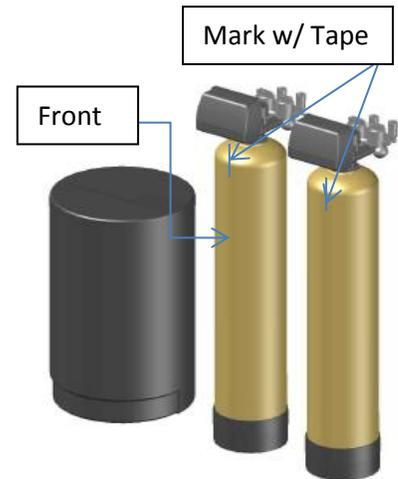

Figure 7: Correctly Set Up DCS6 Twin System
- d. Mark the “front” of each resin tank (shown in Figure 7) with either a marker or tape. The front of the resin tank is determined by the location of the face of the control valve once it has been secured to the face of the control valve. Make sure that the system is positioned in a way that the plumbing can be installed.